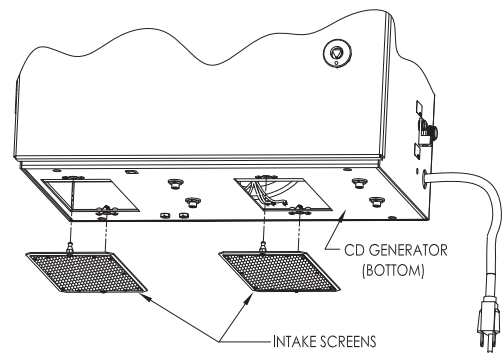

Figure 3: Intake Screen Replacement
1. **Corona Discharge (CD) Module:** The Generator module consists of a High Voltage electrode wrapped around a Teflon core inserted in a ceramic insulating tube. The assembly is encased in a thermally protected aluminum heat sink.
8. **Intake Screens:** Easily removable screens keep debris from entering the enclosure. See figure 3.